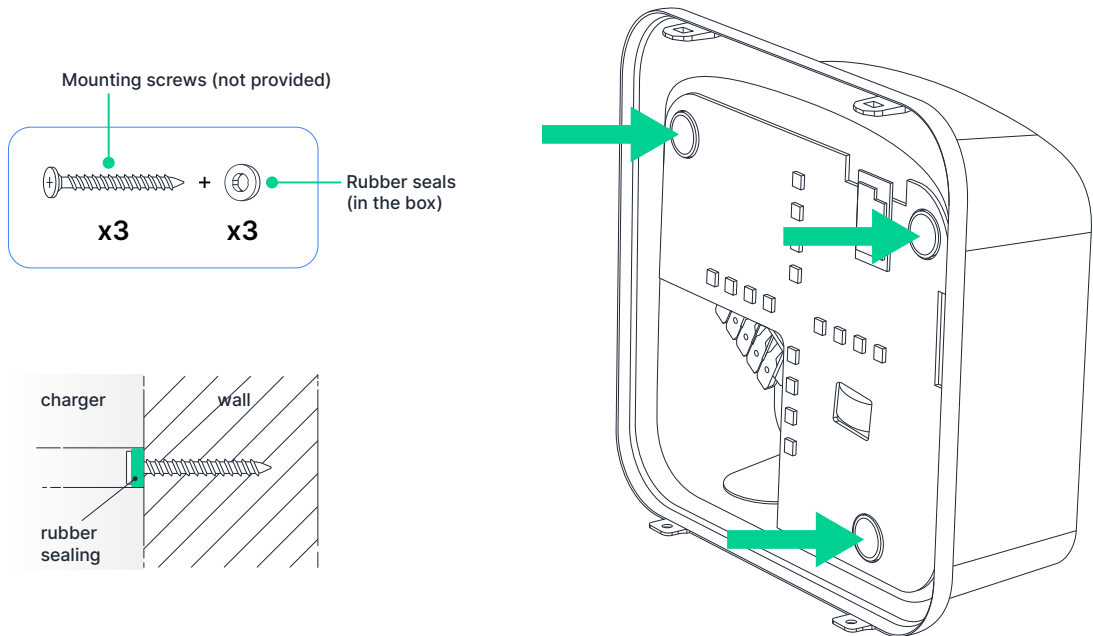

Fig. 6 - Mounting points of the charger
Anchor screws and corresponding screws are not included. (Fig 6 - page 18)
9. Fix the main body of the charger on the wall by inserting the screws with the provided **rubber sealing washer through the mounting points** and tighten them with a screwdriver by hand. (Fig. 6 - page 18)